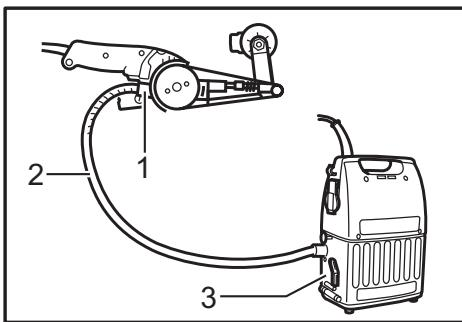

Fig.7
► Fig.7: 1. Nozzle 2. Hose 19 3. Dust collector